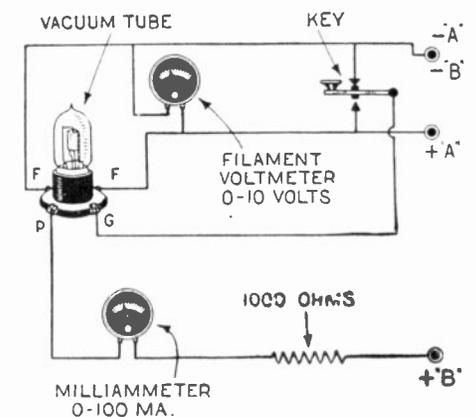

Fig. 203. When buying tubes be sure that they come up to highest possible standard. In order to ascertain this, construct a vacuum tube tester as shown above.
A. 1. The circuit diagram requested is given in Fig. 203. The key which is normally on the negative side of the "A" battery terminals allows the milliammeter to give a certain reading. When the key is depressed a different reading will appear on the milliammeter scale. The greater the change in this reading, the better the tube acts as an amplifier. If the change is less, the tube is a good detector.